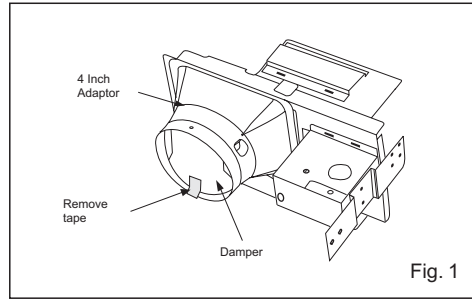

Fig. 1
1. Remove the tape from damper and adaptor before installation. (Fig. 1)